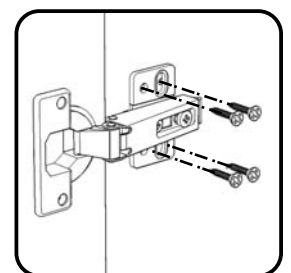

Figure 6
Attach Doors (M) to unit with Wood Screws for Hinge. (See Figure 6)